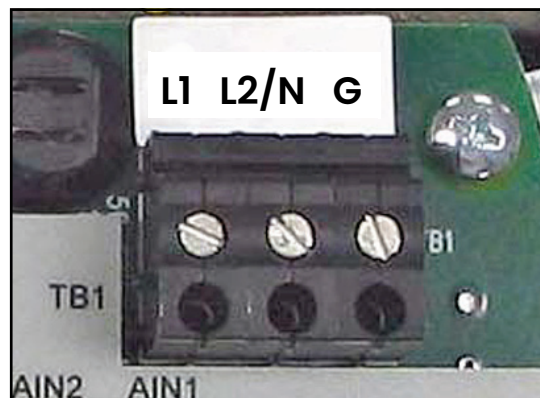
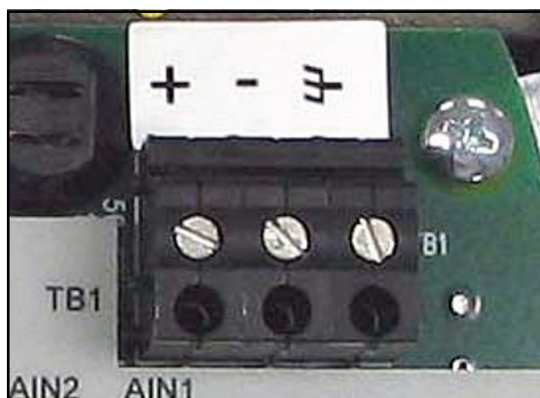

Figure 20: Wiring the AC line power
Figure 21: Wiring the DC line power
See *Figure 20* or *Figure 21* to locate terminal block TB1 and to connect the line power as follows:
2. Route the cable through one of three conduit inlet ports (see *Figure 19* above) and connect the line power leads to terminal block TB1, using the pin number assignments shown in *Figure 34* on page 38 and *Figure 20* or *Figure 21* on page 29.
3. Run the AC power connections to the Power Terminal Block shown in *Figure 20* below. The use of 12–18 AWG (3.3 – 0.82 mm²) wire is recommended for the power connections.
5. Route the cable through the chosen conduit hole and connect the line power leads to terminal block TB1, using the pin number assignments shown in *Figure 35* on page 39 and *Figure 20* or *Figure 21* below.